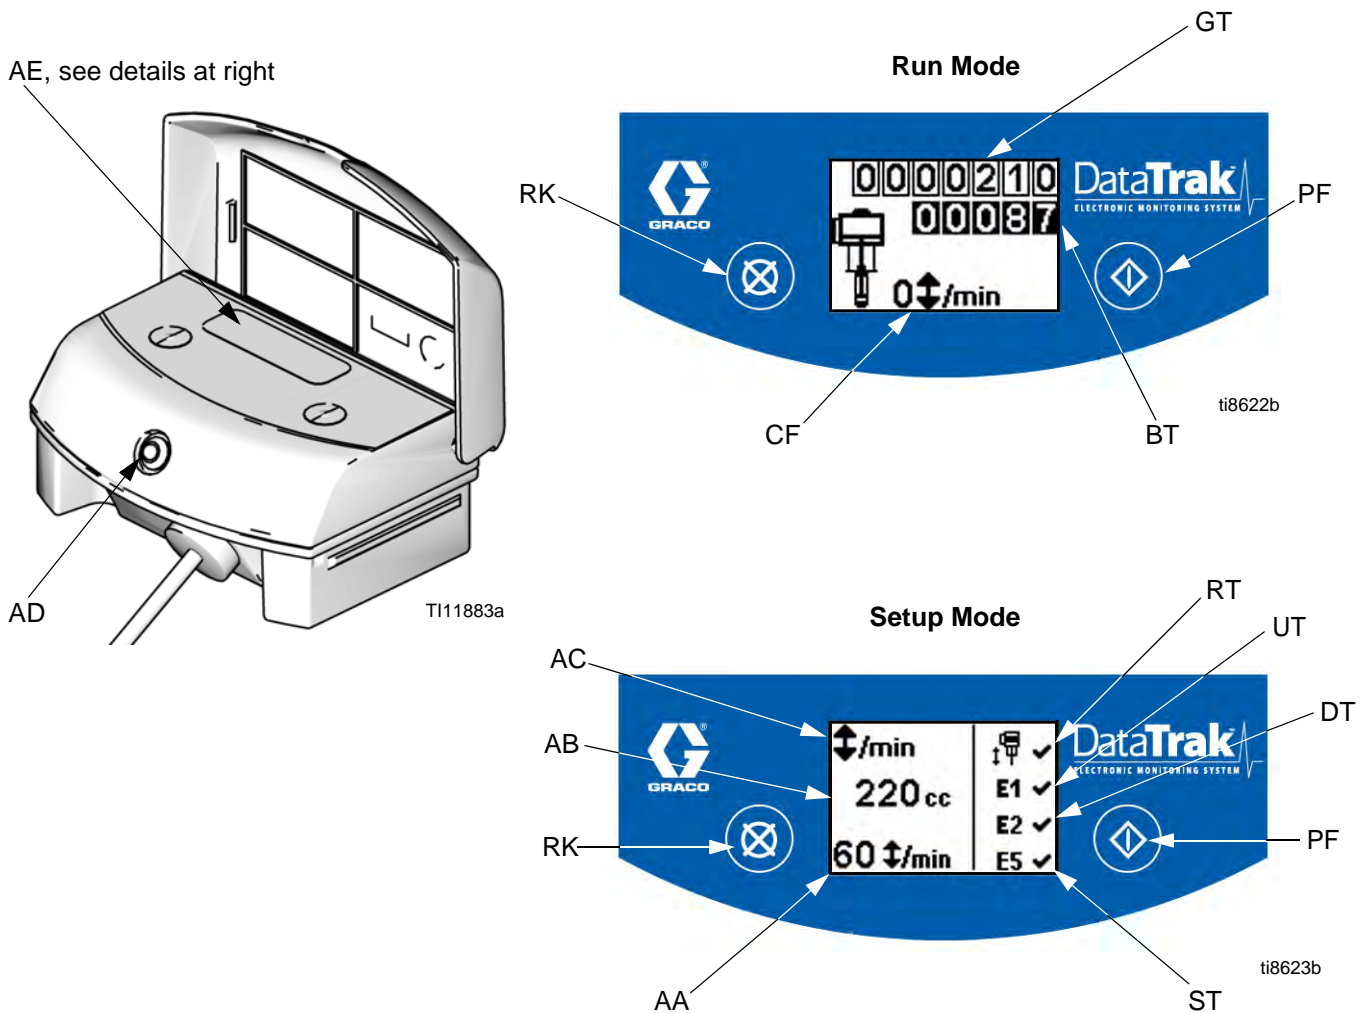

FIG. 9. DataTrak Controls and Indicators
Key for FIG. 9
1. See FIG. 9. Press and hold  for 5 seconds until Setup menu appears.
NOTE: When runaway, E1, E2, and E5 error options are enabled, a ✓ will appear on the setup screen. See FIG. 9.
1. See FIG. 9. If pump runaway occurs, the runaway solenoid will actuate, stopping the pump. The LED (AD) will flash and the display (AE) will indicate a runaway condition (see Table 1). The display will cycle through six instruction screens.
2. Runaway Screens 1 and 2: To reset the runaway solenoid, close the master air valve (U). Wait for air to completely bleed off the air motor.
5. Open master air valve (U) to restart pump.
NOTE: To disable runaway monitoring, go to setup mode and set runaway value to 0 (zero) or toggle (RT) off  (see FIG. 9).
1. See FIG. 9. To enter Prime/Flush mode, press any key to wake up the display, then press . The Prime/Flush symbol will appear in the display and
See FIG. 9. The last digit of the batch totalizer (BT) represents tenths of gallons or liters. To reset the totalizer, press any key to wake up the display, then press and hold  for 3 seconds.
See FIG. 9. The display (AE) will turn off after 1 minute of inactivity in Run mode or 3 minutes in Setup mode. Press any key to wake up the display.
DataTrak can diagnose several problems with the pump. When the monitor detects a problem, the LED (AD, FIG. 9) will flash and a diagnostic code will appear on the display. See Table 1.